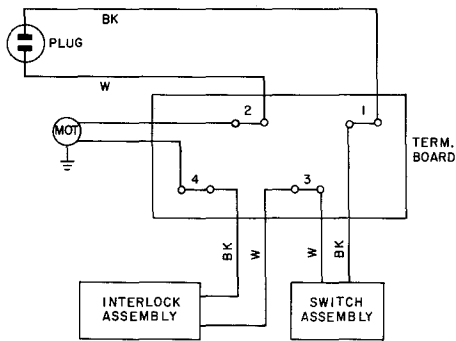

Fig. 30—KS-16797, List 9 (MD) Blower Assembly, Connections
- (3) Remove cover of terminal box assembly.
- (4) Check cord assembly as follows:
- (b) Connect ohmmeter to terminal 1 and 2 of terminal board (Fig. 30).
- 0 reading indicates cord assembly is good; continue with (5).
- (5) Operate BLOWER switch to ON position.
- (6) Check blower switch assembly as follows:
- (a) Connect ohmmeter to terminals 1 and 3 of terminal board (Fig. 30).
- 0 reading indicates switch assembly is good; continue to (7).
- (7) Operate interlock switch by closing booth door. Ensure that BLOWER switch is in OFF position.
- (8) Check interlock switch assembly as follows:
- 0 reading indicates interlock switch is good; continue with (9).
Inspect the blower switch and interlock switch assemblies. If their condition is good, connect their leads to terminal board per Fig. 30; if their condition is questionable, replace as directed in 4.30 or 4.31.
- (1) Tie a wire or string to the switch assembly leads at the end disconnected from the terminal board.
- (2) Remove and retain two No. 8-32 by 5/8 RH self-tapping screws which secure switch assembly to corner post.
- (3) Pull switch assembly until leads are removed from wire channel and wire or string is exposed.
- (4) Untie wire or string from leads of old switch and tie to leads of new switch.
- (5) Pull wire or string and feed switch leads through wire channel to terminal board. Untie wire or string.
- (6) Mount switch in position on post and secure it with the two screws retained in (2).
- (7) Connect leads to terminal board per Fig. 30.
- (1) Tie a wire or string to the switch assembly leads at the end disconnected from terminal board.
- (2) Remove and retain two No. 6-32 by 1-1/16 BHM screws, two No. 6 lockwashers, and two No. 6-32 hex nuts which secure switch assembly to track assembly.
- (3) Repeat 4.30 (4) and (5).
- (4) Mount switch in position on the upper surface of the track assembly with its operating bracket extending through the track.
- (5) Secure switch to track assembly using hardware retained in (2); lockwashers and hex nuts shall be on top side of track.
- (6) Connect leads to terminal board per Fig. 30.